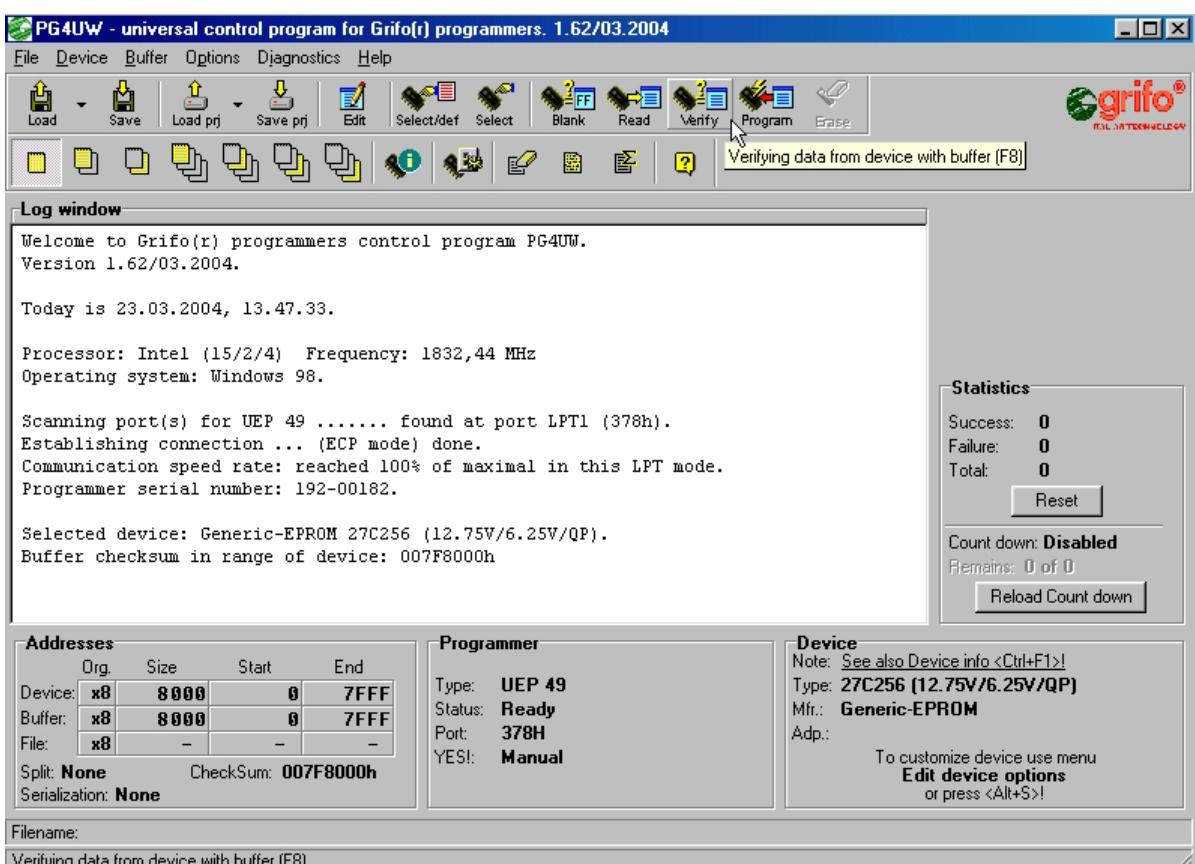

FIGURE 17: VERIFY DEVICE MEMORY MENU
- After programming, You can verify the content of the programmed device with the content of the memory buffer through the Device/Verify menu or the keyboard shortcut <F8> (please refer to figure17).